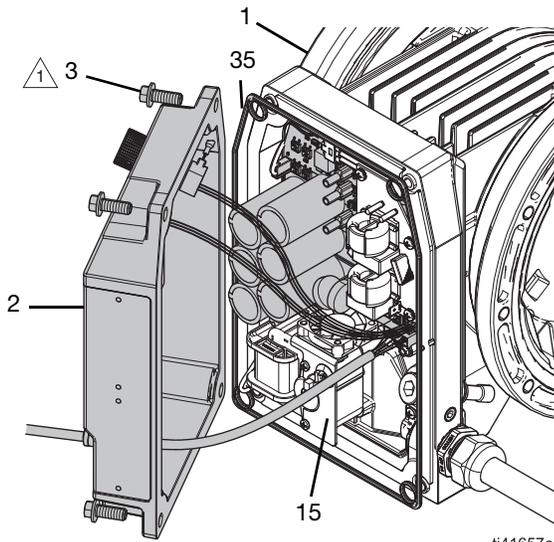

FIG. 2: Control Cover
See FIG. 2.
2. Remove the fasteners (3) from the control cover (2).
3. Carefully remove the control cover (2):
- a. Carefully tilt the control cover (2) away from the control board (15). See FIG. 2.
- b. Disconnect all wires from the control cover (2) to the control board (15). See **Electrical Schematics**, page 36.
3. Install the control cover (2):
- a. Carefully hold the control cover (2) in place at an angle near the control board (15). See FIG. 2.
- c. Connect wires from the control cover (2) to the control board (15). See **Electrical Schematics**, page 36.